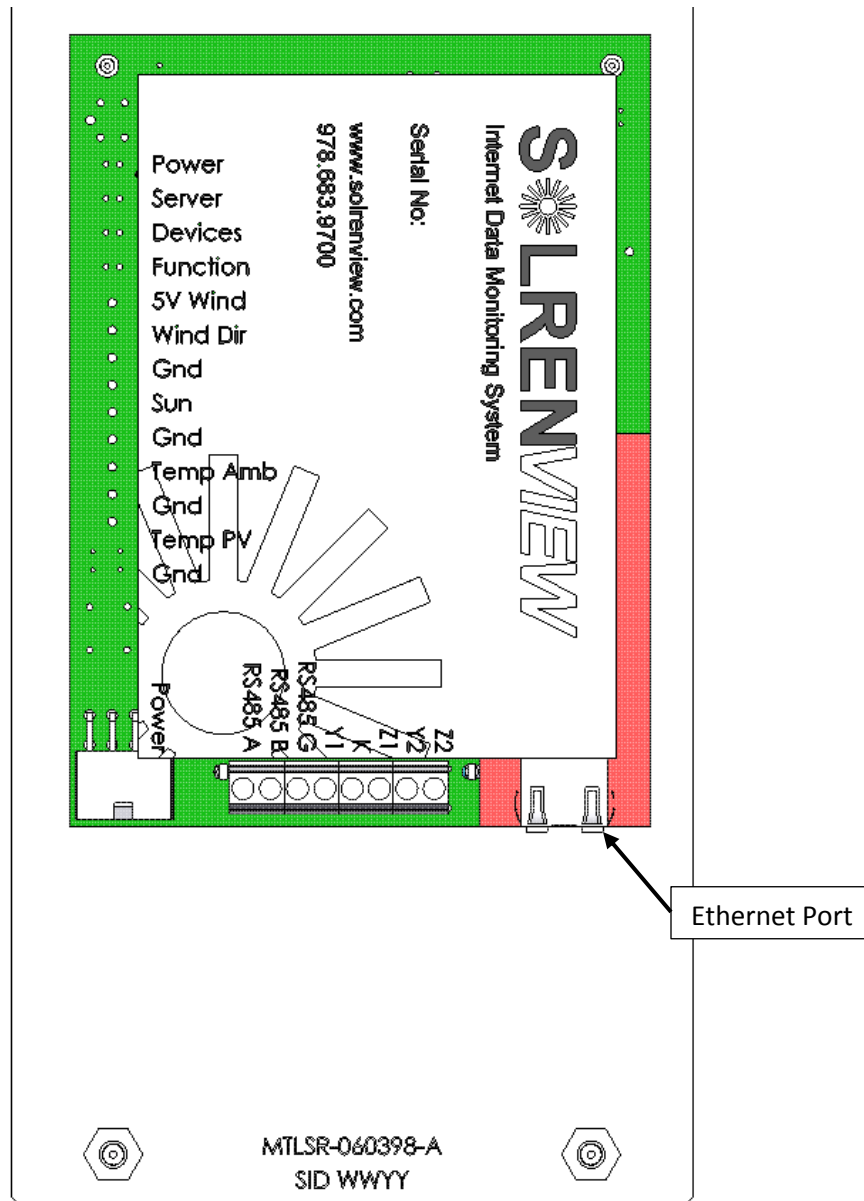

Figure 7.5—Ethernet Connection to the Back of the SolrenView DAS
The SolrenView Data Acquisition System (DAS) is located on the back of the leftmost door, as shown in the figure below. The Ethernet connection shown in Figure 7.5 is utilized with the SolrenView monitoring services to connect the SolrenView DAS to the internet.
2. Plug a Cat 5e or better networking cable into Ethernet port (see Figure 7.5).